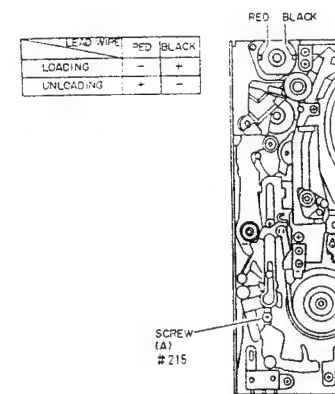
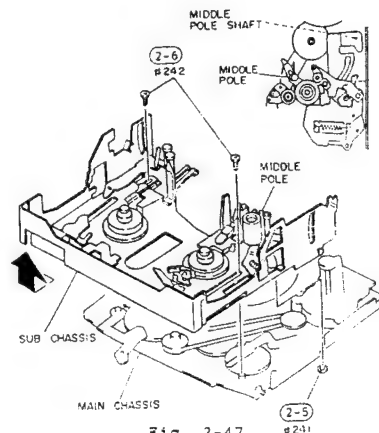

Fig. 2-46
Fig. 2-47
(2) Sub Chassis Assembly
- 3) Apply DC3V to the loading motor (CN904) so the sub chassis performs loading until screw (A) holding the sub chassis can be seen. When screw (A) can be seen, disconnect DC3V from the loading motor and stop loading. (See Fig. 2-46)
- 4) Remove screw (A) and apply DC3V to the loading motor in the reverse way to step 3) to set the sub chassis to the eject state.
- 5) Remove one (1) washer holding the middle pole. (See Fig. 2-47)
- 6) Remove two (2) screws holding the sub chassis.